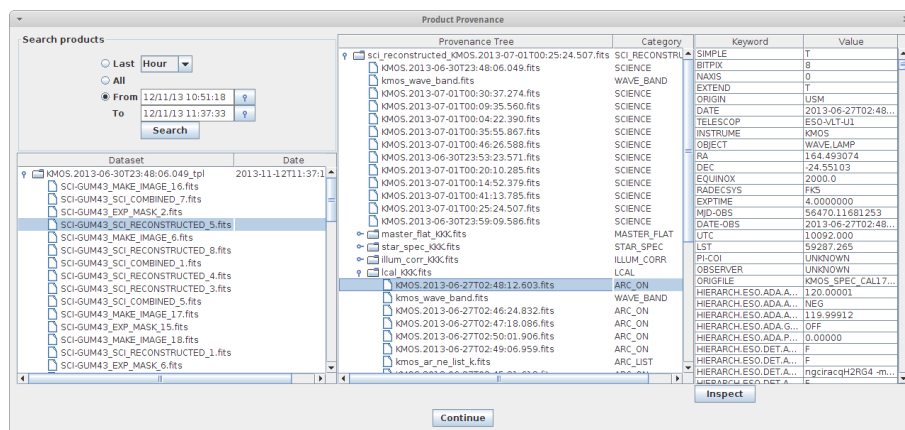

Figure 4.4: The KMOS provenance explorer.
9. When the reduction of the current `DataSet` finishes, a pop-up window called *Provenance Explorer* will appear showing the datasets which have been so far reduced together with the list of final products. This actor allows the user to inspect the final data products, as well as to search and inspect the input data used to create any of the products of the workflow. Figure 4.4 shows the *Provenance Explorer* window.